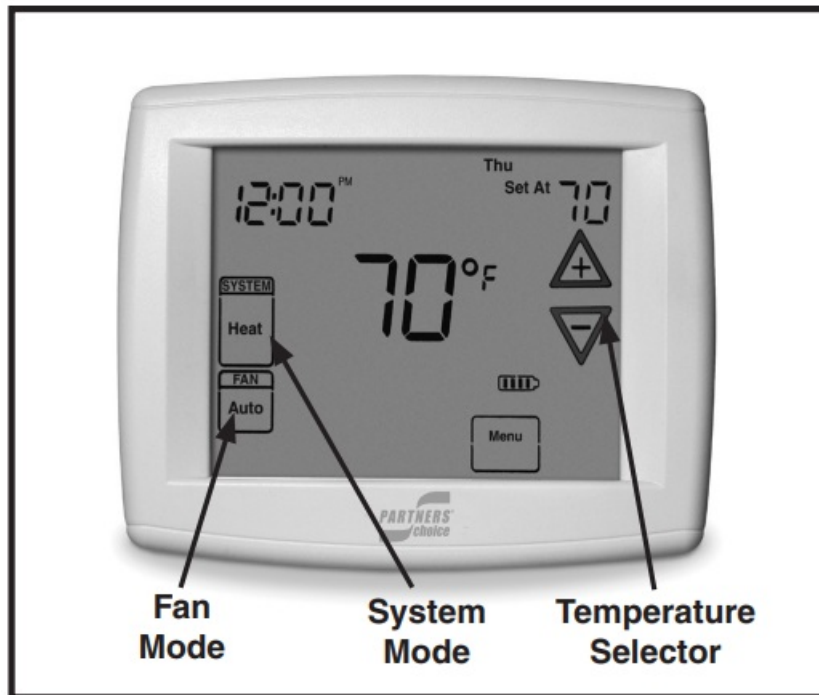

Figure 1. Digital Thermostat
1. Set the thermostat system mode to COOL and the thermostat fan mode to AUTO. See Figure 1.
1. Set the thermostat system mode to Heat and the thermostat fan mode to AUTO. See Figure 1.
Set the thermostat system mode to OFF and the thermostat fan mode to AUTO. See Figure 1. NOTE: The system will not operate, regardless of the thermostat temperature selector's setting.
y not include the O in place of the detailed Operating the Indoor Blower Continuously Set the thermostat fan mode to ON (or CONT on some thermostat models). See Figure 1.
1. Set the thermostat's system mode to HEAT or AUTO and change the fan mode to AUTO. See Figure 1 (pg 3).
1. Set the thermostat system mode to AUTO and the thermostat fan mode to AUTO. See Figure 1 (page 3).
The continuous indoor blower operation is typically used to circulate the indoor air to equalize a temperature imbalance due to a solar load, cooking, or fireplace operation. Set the thermostat fan mode (Figure 1) to ON (or CONT on some thermostat models). The indoor blower will start immediately, and will run continually until the fan mode is reset to AUTO.
Set the thermostat system mode (Figure 1) to OFF and the thermostat fan mode to AUTO. NOTE: The system will not operate, regardless of the thermostat temperature selector's setting.